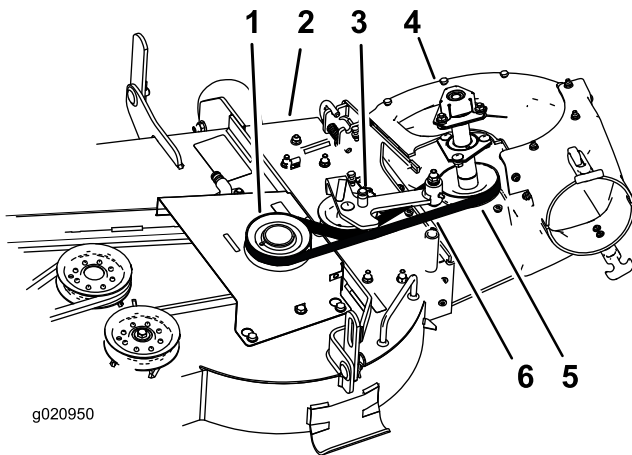

Figure 28
4. Pull back on the spring-loaded idler pulley to relieve the belt tension (Figure 28).
8. Install the new belt around the blower pulleys (Figure 28).
10. Install the new belt around the mower-deck pulley (Figure 28).
13. Pull back on the spring loaded idler pulley and install the belt onto the spring loaded idler pulley (Figure 28).